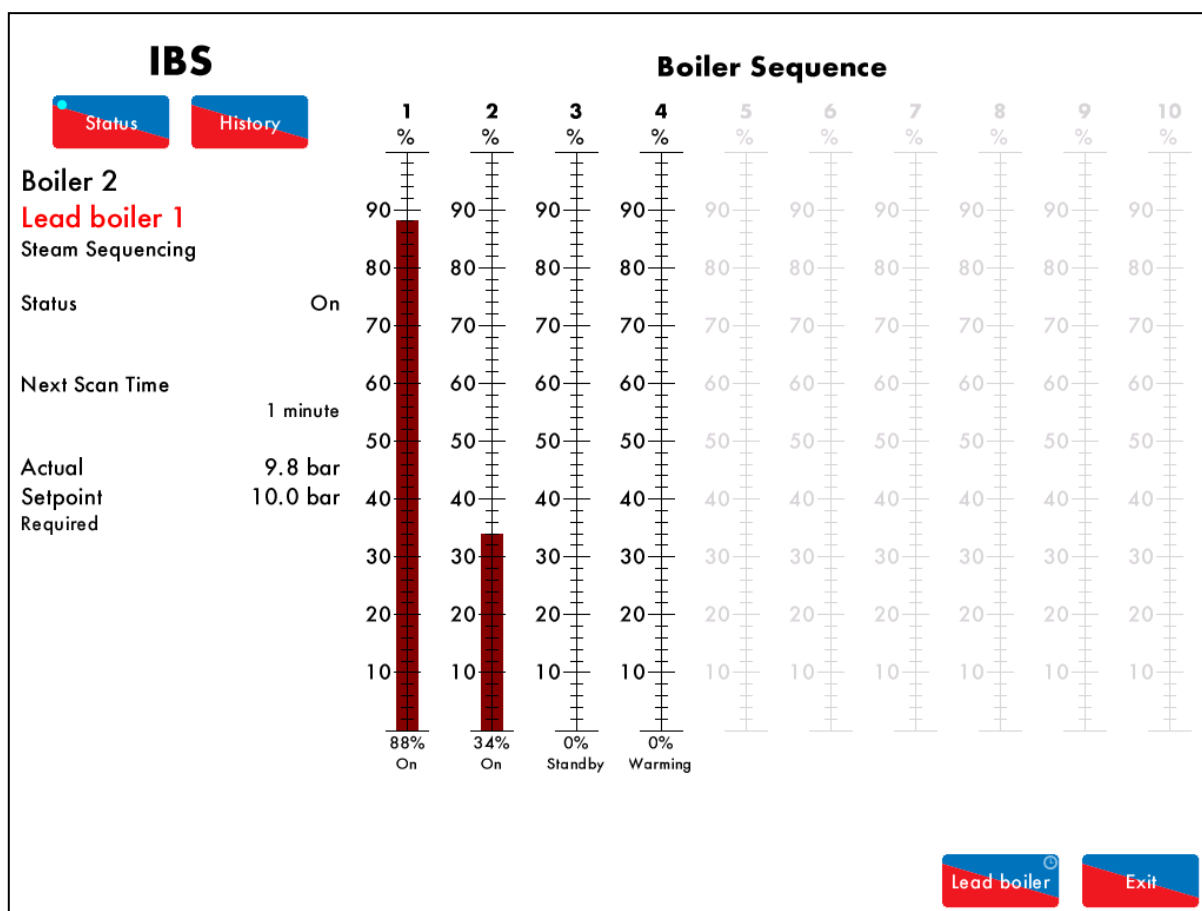

Figure 18.9.1.i IBS – Status
1. Press and hold  for 3 seconds in the IBS Status screen in Figure 18.9.1.i.
Press **History** in the IBS Status screen in Figure 18.9.1.i to view the IBS History screen, which shows the firing rates histories for all the boilers in the sequencing loop.